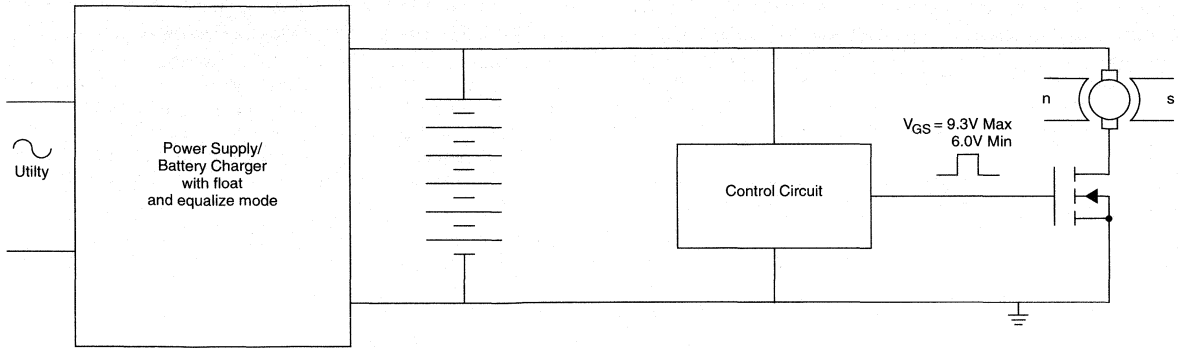

Figure 4: Motor of a Fluid Injection Pump
- Medical equipment with battery backup is another popular application. Figure 4 shows the motor of a fluid injection pump powered by the utility supply and backed by a NiCad battery. The $V_{GS} = 6$ volts condition demands careful attention, because the $R_{DS(ON)}$ has to be low in order to ensure a low drain to source voltage drop. A large voltage drop can A) affect motor performance, and B) cause high I^2R losses, reducing system efficiency and battery back-up time.